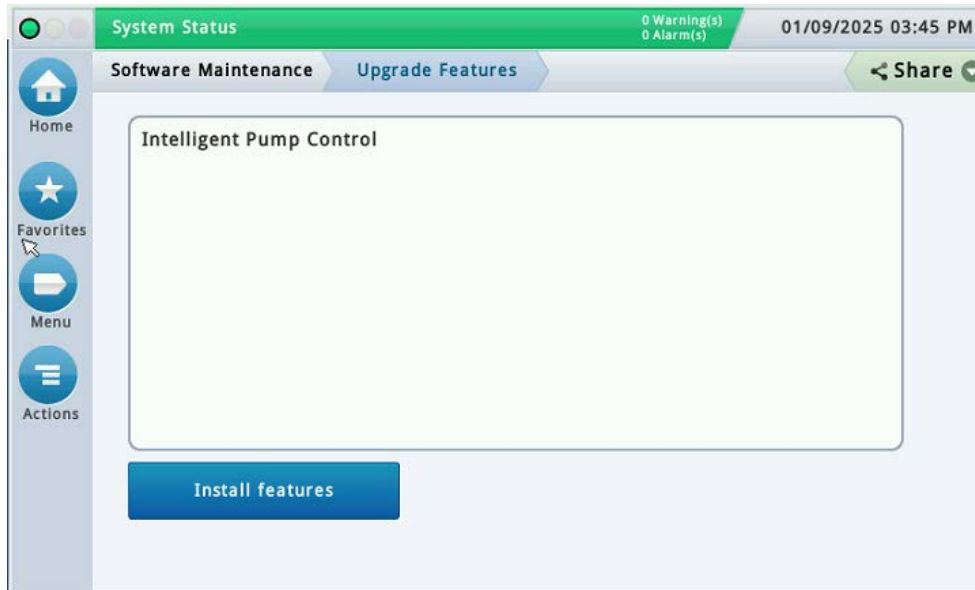

Figure 20. Upgrade Features Screen
3. From the Home Screen, navigate to **Menu>Software Maintenance>Upgrade Features** (see Figure 20.